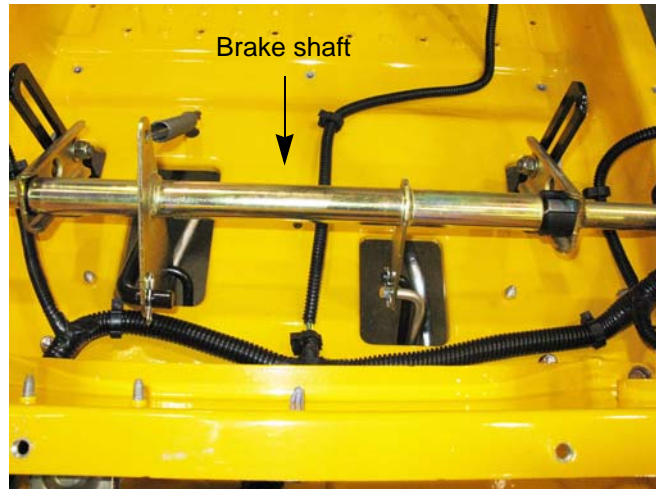

Figure 7.28
3. Remove the bow tie clips that hold the brake rods in the brake shaft bell cranks. See Figure 7.28.